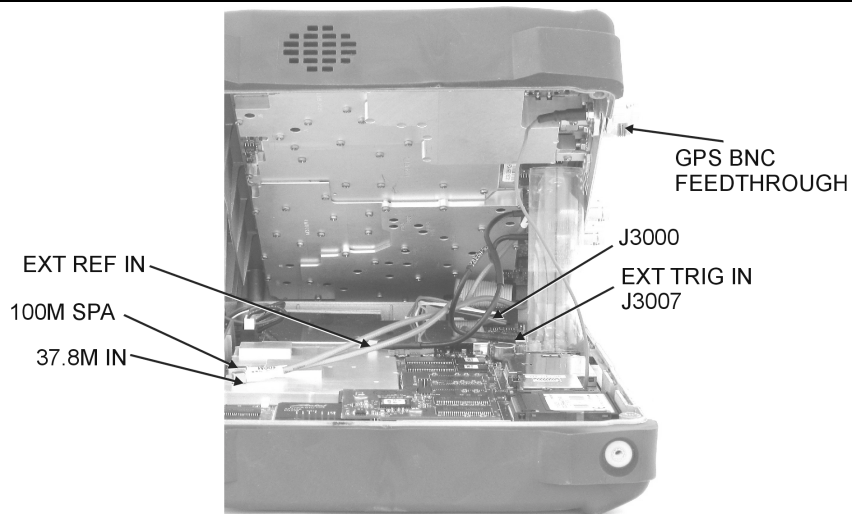
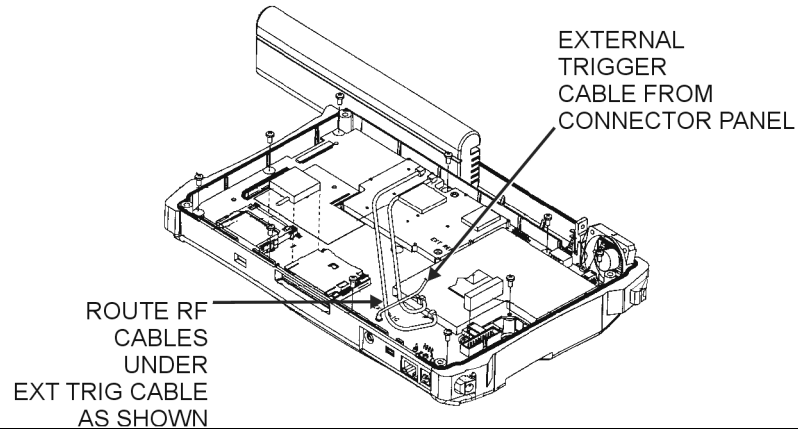

Figure 12. Front Panel Assembly Removal and Cable Connections
Figure 13. Cable Routing Diagram
CAUTION: Do not force or pull the two halves of the case apart completely, there are delicate cables attached between the two halves that must be disconnected first. Refer to Figure 12 and Figure 13 and note the position and routing of the cables, they should be similarly routed when the unit is reassembled.
5. For GPS option 31 equipped units, carefully loosen and remove the lock nut and washer from the GPS BNC connector at the housing feed through. Then remove the GPS BNC connector from the case (Figure 12).
12. Reverse the above steps to reassemble the case (Figure 13).